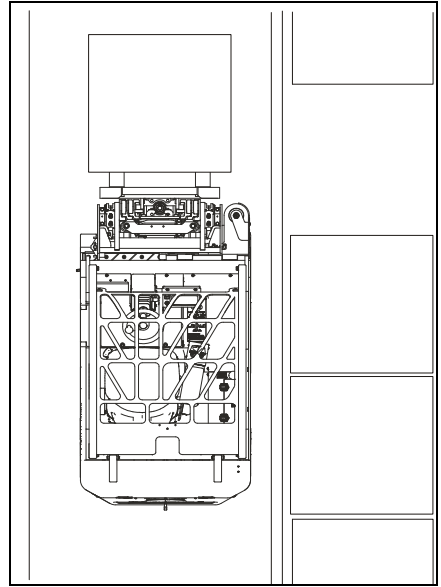

Figure 4-16: Normal Traveling Position
13. When you are sure the pallet clears the rack completely, continue pivoting the mast and shifting to the right until the load is centered to the truck. **See Figure 4-16.**